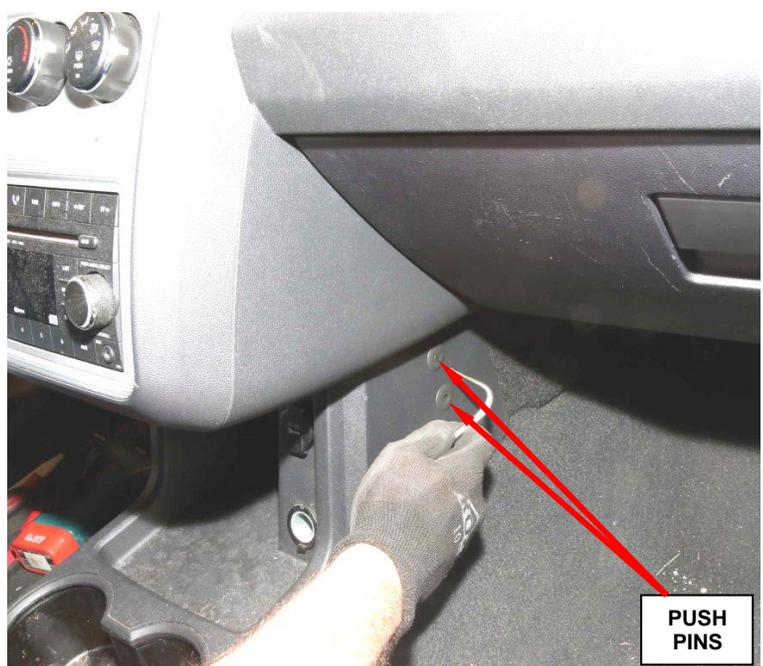

Figure 7 – Cup Holder Push Pins (right side shown)
- e. Disengage the four push pins on the side of the cup holder panel (two on each side) (Figure 7).